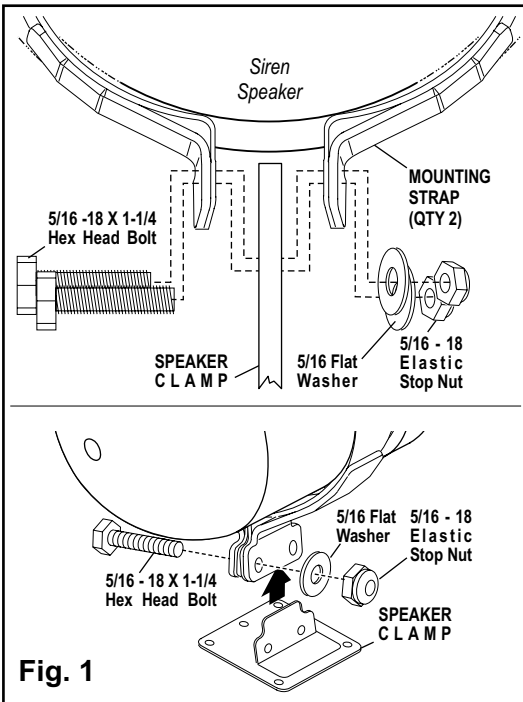

Fig. 1
1. Secure the mounting straps to the speaker by securing the speaker clamp using the supplied hardware (Fig 1).